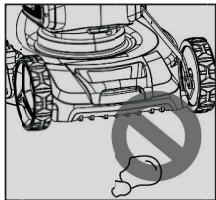

Fig.12A
3. Before mowing, remove all foreign objects from the lawn which may be thrown by the machine. While mowing, stay alert for any foreign objects which may have been missed. (Fig.12A)